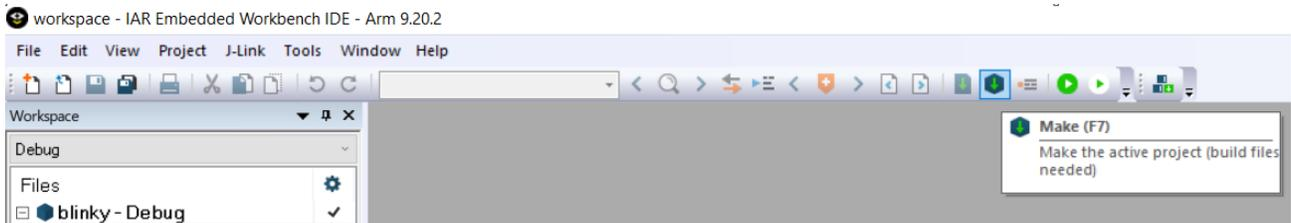

Figure 39. Starting a Project Build in the IAR Embedded Workbench
1. Right click on the folder for **blinky** and choose **Rebuild All**. Alternatively, you can use the icon shown in the "Starting a Project Build in the IAR Embedded Workbench" figure (Figure 39).